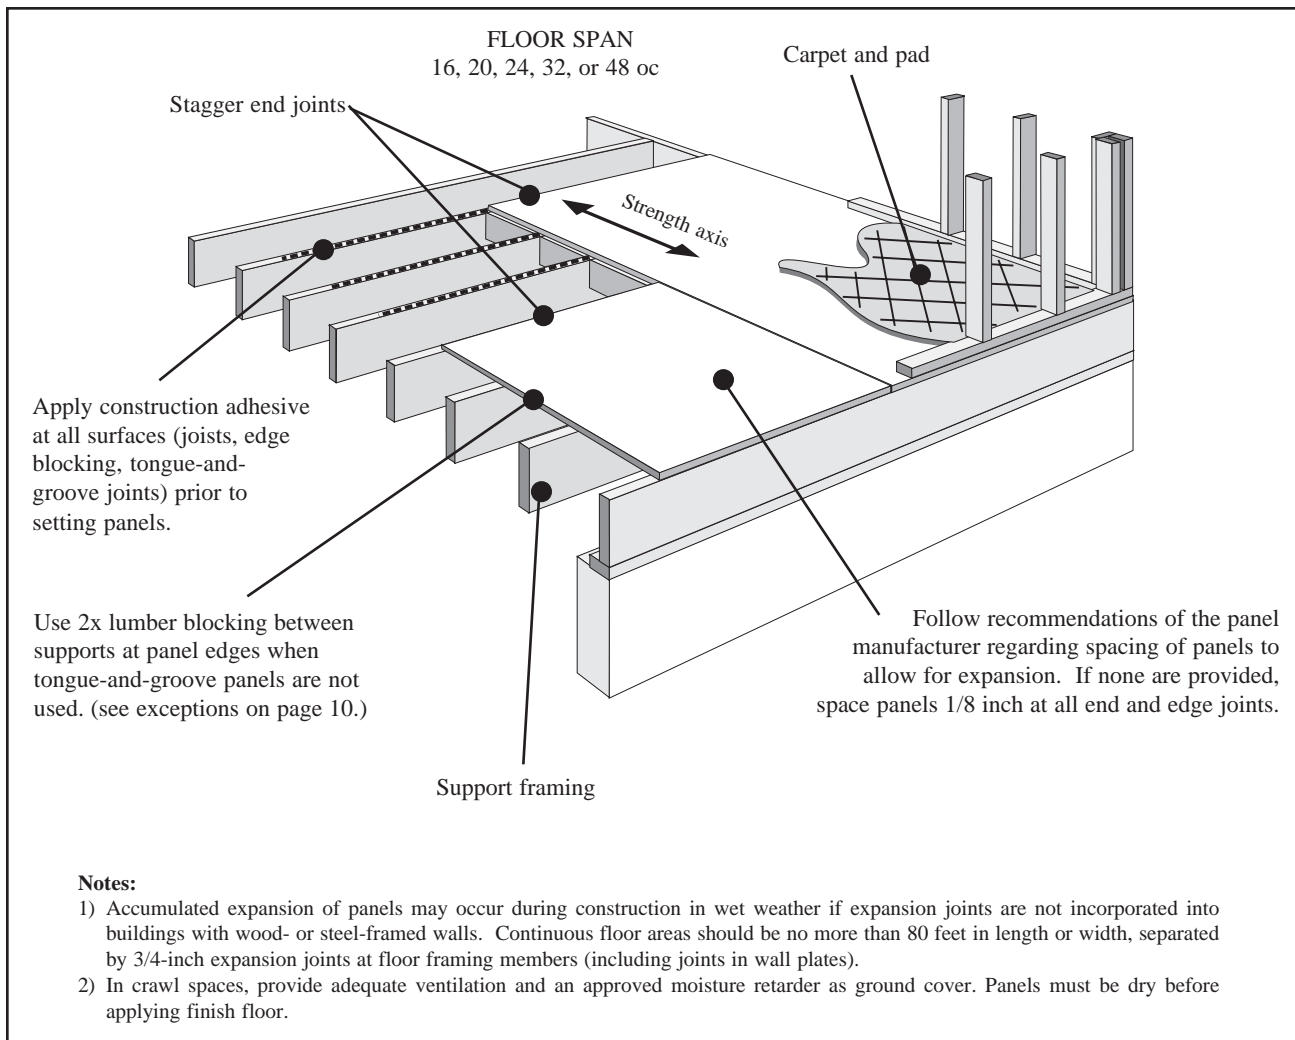

Fig. 6. Glued floor system
The system is normally used with FLOOR SPAN panels (Fig. 6), although multi-layer floors incorporating SHEATHING SPAN with a separate underlayment or with structural finish flooring are also candidate systems.
2. Panels are to be installed with the field-glued floor system (page 15 and Fig. 6).